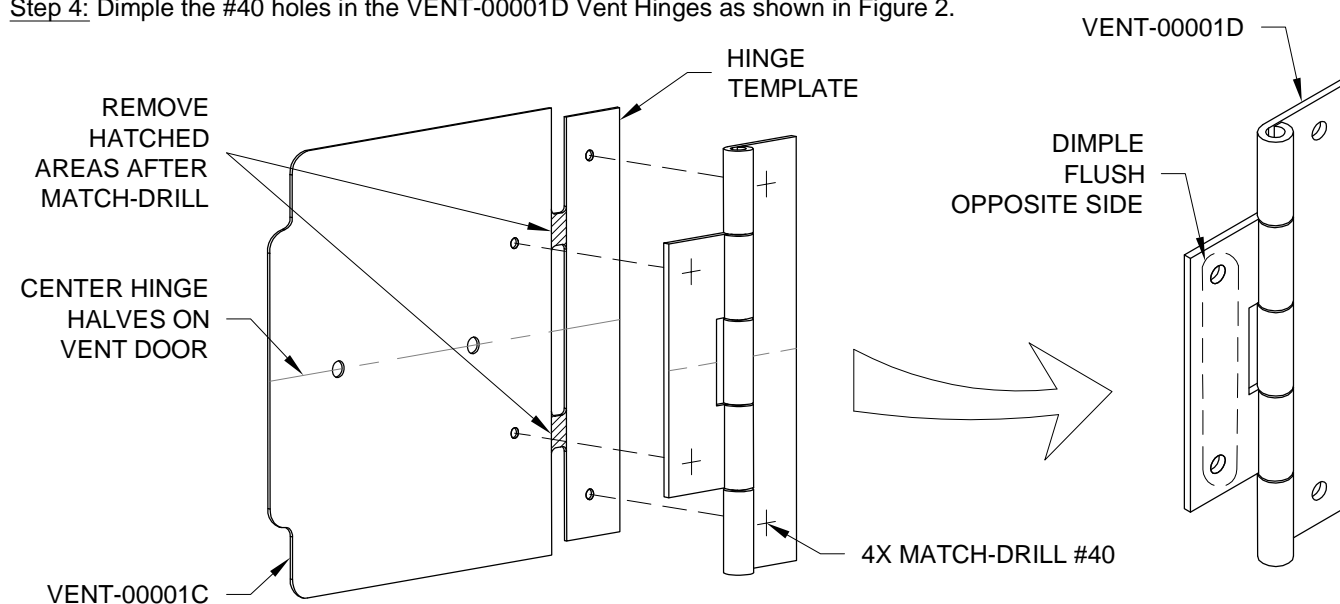

FIGURE 2: MATCH-DRILL & DIMPLE HINGES
Step 2: Center the two halves of one VENT-00001D Vent Hinge on one VENT-00001CE Vent Door and match-drill #40 the vent hinge using the vent door as a guide. Repeat for the remaining vent hinge and vent door. See Figure 2.
Step 3: Separate the VENT-00001E Hinge Templates from the VENT-00001CE Vent Doors as shown in Figure 2. Discard the hinge templates.
Step 4: Dimple the #40 holes in the VENT-00001D Vent Hinges as shown in Figure 2.